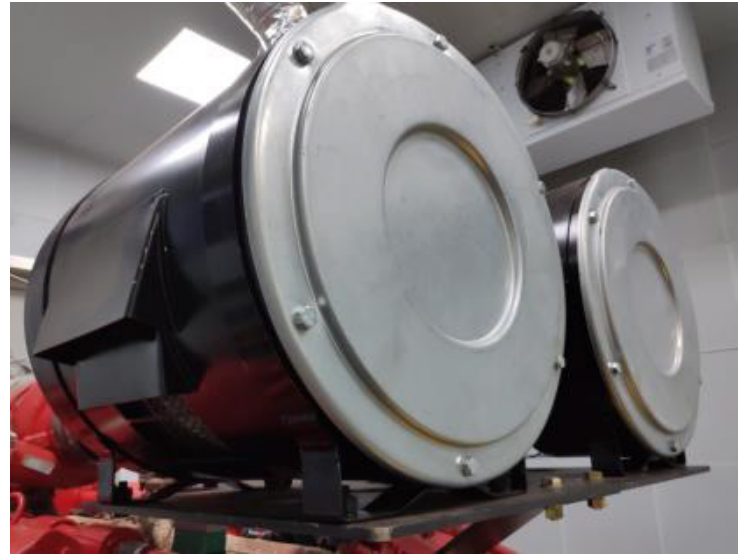

FIGURE 19 - AIR FILTER HOUSING
- Remove the clamp(s) that hold the air filter housing closed. See FIGURE 19.